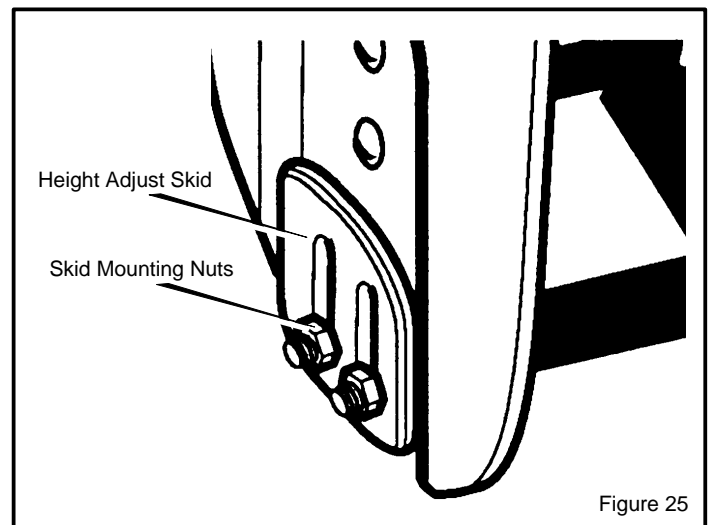

Figure 25
2. Loosen skid mounting nuts (Figure 25) and push the skid down until it touches the ground. Retighten mounting nuts.